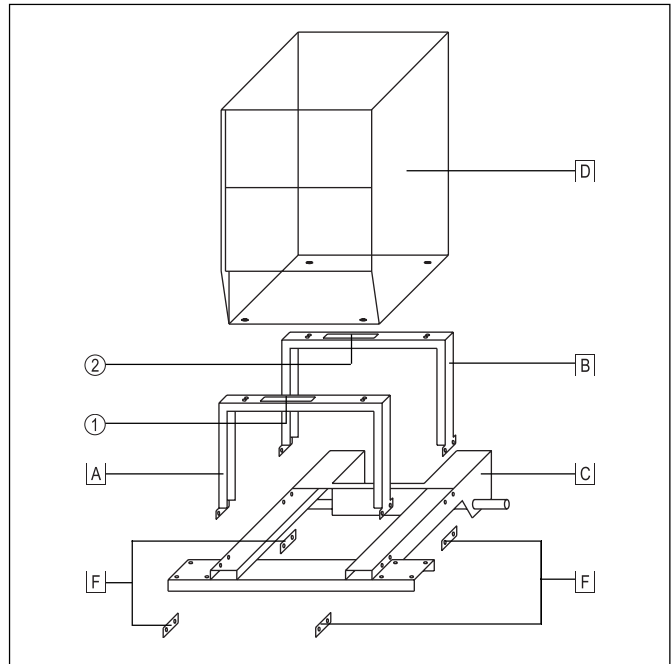

Fig. 14 Assembling the power source
- Fit mounting brackets [A] and [B] down onto the trolley frame [C] so that the openings ① and ② in both mounting brackets are at the top left
- Insert the fastening plates [F] (complete with pre-mounted nuts) from the rear, as shown in Fig. 14, and screw on loosely using M8 x 20 steel screws with washers and retaining rings.